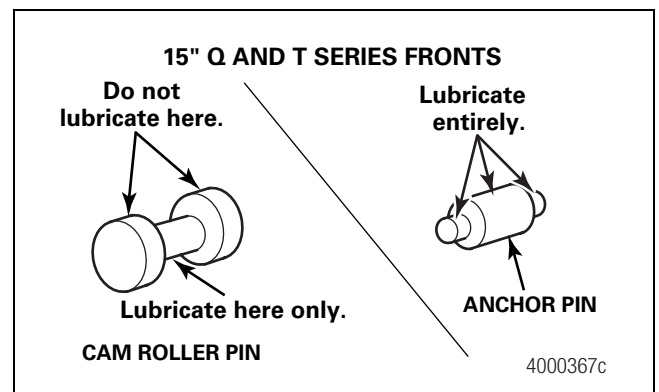

Figure 5.24
1. Use Meritor specification O-617-A or O-617-B grease to lubricate the roller pin and anchor pin. Figure 5.24.
1. Lubricate the roller pin and anchor pin with Meritor specification O-617-A or O-617-B grease. Figure 5.24.